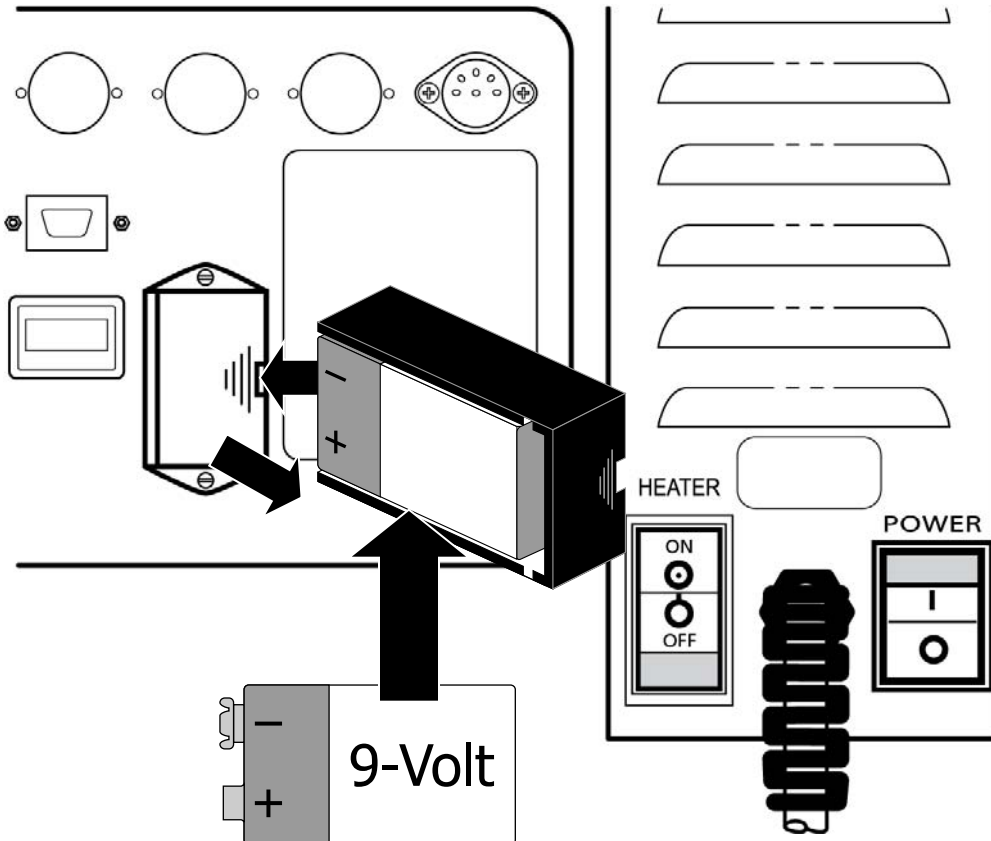

Figure 65 – Replacing the 9-Volt Battery
3. Place a fresh battery in the cartridge and reinsert it back into the machine as shown in Figure 65. The negative side of the 9-Volt battery should be on top.
4. Power the machine ON and, using the main power switch on the back of the machine (see the right side of Figure 65), shut off the power to the machine. Listen for the No Power alarm, if the alarm does not sound, repeat steps 1-4.